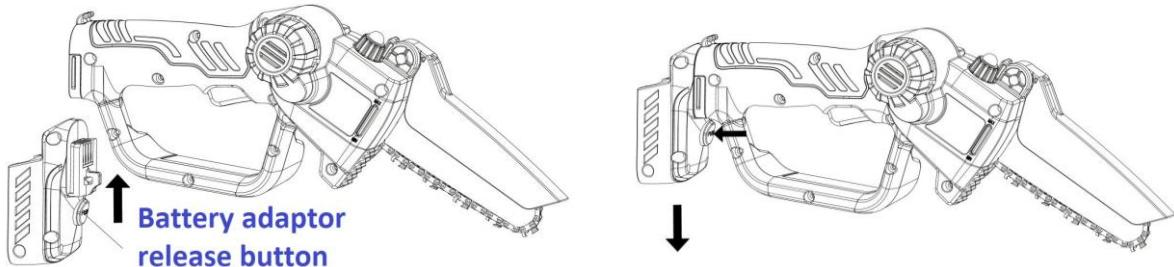

Fig. 2
4.4- Installing/removing the battery adaptor (Fig. 2)
- Completely insert the battery adaptor (5) into the power tool along the guide slot, until clicking into position.
- To release the battery adaptor, press the battery adaptor release button (8), then pull the adaptor away from the power tool.